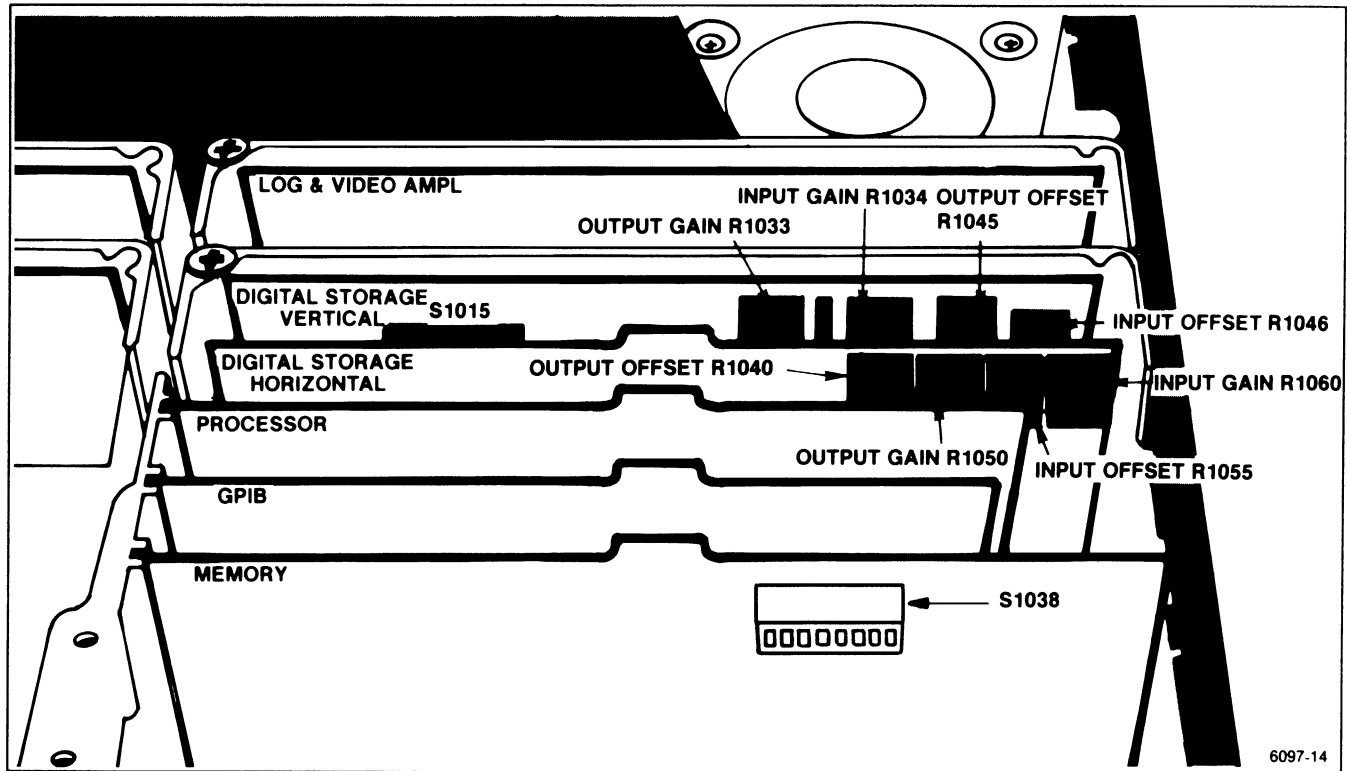

Figure 5-7. Digital storage adjustment locations.
a. Start the Digital Storage Calibration routine by pressing <SHIFT> 0, and select item 2 (DIGITAL STORAGE CAL.) Follow the instructions that are displayed on the crt, referring to Fig. 5-7.
d. Adjust Input Offset R1046 (Figure 5-7), on the Vertical Digital Storage board, to match the stored display to the non-stored display while repeatedly switching VIEW B on and off.
f. Adjust Input Gain R1034 (Figure 5-7), on the Vertical Digital Storage board, to match the stored display to the non-stored display.
i. Adjust Input Gain R1060, on the Horizontal Digital Storage board (Figure 5-7) to match the horizontal position of the stored signal to that of the non-stored signal.